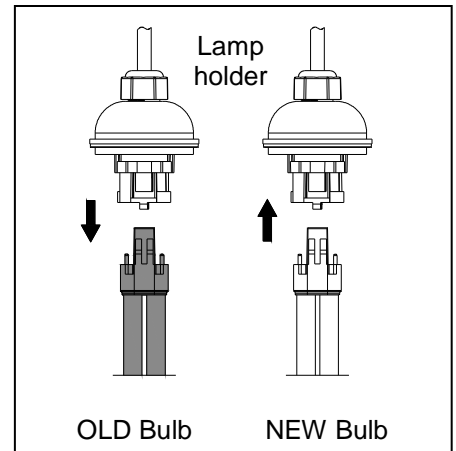

Fig. 17
3. Carefully remove the old bulb by firmly pulling on the base. Carefully install the new bulb. Fig. 17